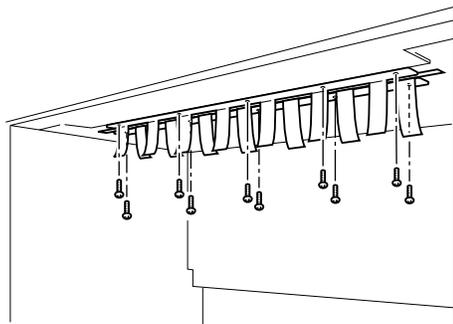

Figure D-3
5. Install the two paper guides to the Printer body by fastening the five screws. (See Figure D-3)